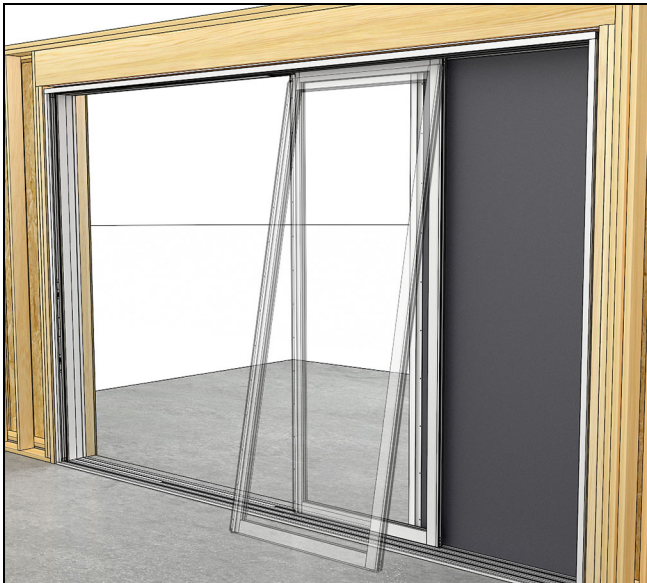

Figure 85 Pocket Panel (interior installation)
1. Install the pocket panel first. Lift the top of the panel into the exterior most head jamb track. Then swing the bottom over the sill track until centered over the roller guide. Set the panel gently onto the guidetrack. See Figure 85